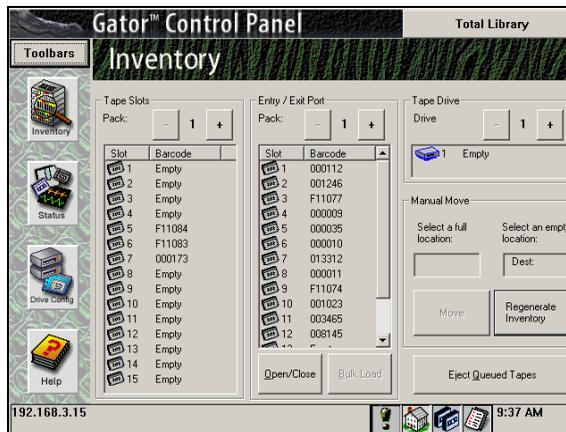

Figure 9-3 *Inventory screen.*
1. From the General Status screen, tap **Inventory**. This brings up the Inventory screen (Figure 9-3).